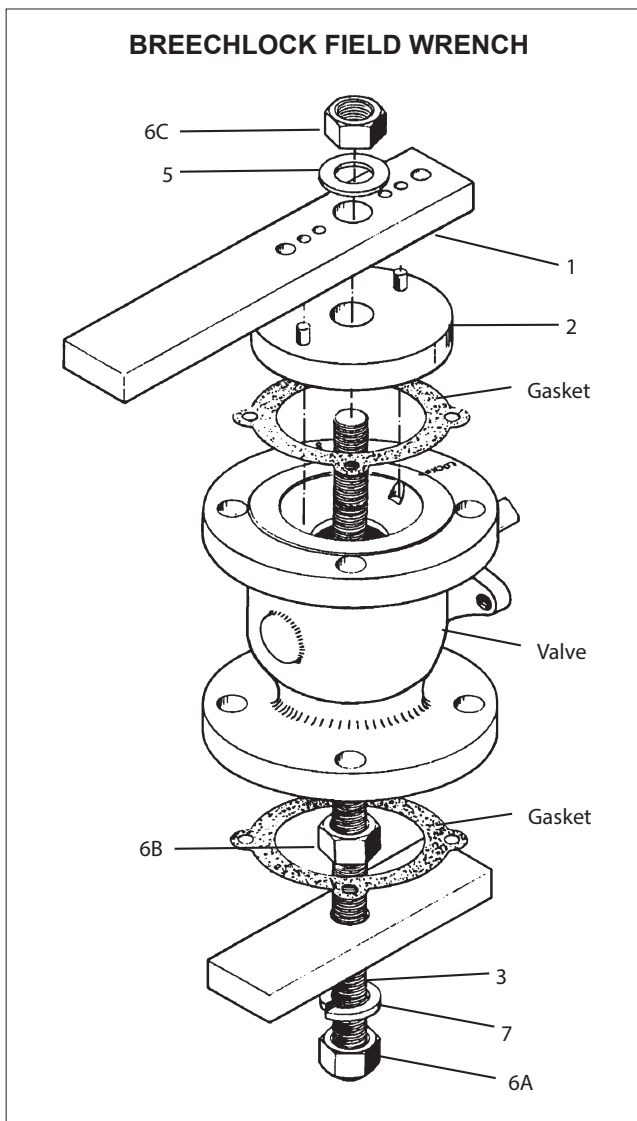

Figure 1.
3. Remove the cap screw (18) holding the handle to the stem.
4. Remove the handle (17).
- A. Using the breechlock field wrench - assemble the field wrench as follows. (Refer to **Figure 1**).
1. Thread a hex nut (6A) onto the rod (3) as shown in (**Figure 1**). the second plate (2) over the rod engaging the dowel pins with the wrenching grooves.
2. Slide the lockwasher (7) and base (4) down the rod and securely fasten with another hex nut (6B).
4. Place the other gasket on the insert and slide the second plate (2) over the rod engaging the dowel pins with the wrenching grooves.
5. Fit the handle (1) over the dowel pins of the plate.
6. Fit the washer (5) over the rod and tighten the entire assembly with the remaining hex nut (6C).